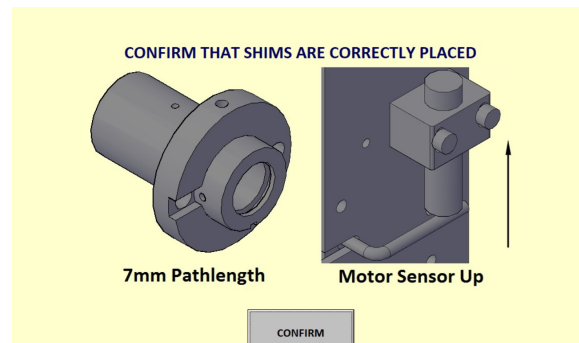
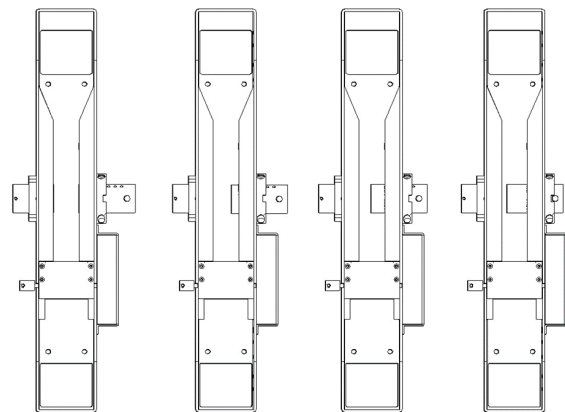

Figure 2-7. Probe and Motor Sensor Position
Figure 2-8. Probe positions 30mm, 23mm, 15mm and 7mm
- Press the Confirm button to agree the FOP probe is in the correct position as shown in Figure 2.7 and 2.8. Adjust the Probe Position if required by loosening the locking screw and moving the Probe in or out to the correct Crop Type position as shown in Figure 2.8. Tighten the locking screw to secure. This warning will come up each time a new calibration has been selected with a different FOP Probe position.